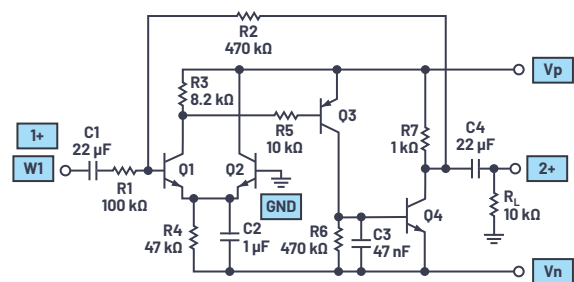

Figure 1. A high gain amplifier.
On your solderless breadboard, construct the amplifier circuit shown in Figure 1.
Connect your circuit to the ADALM2000 I/O connector as indicated by the blue boxes in Figure 1. It is best to ground the unused negative scope inputs when not being used. The SSM2212 NPN matched pair should be used for Q1 and Q2 transistors.
- For the circuit in Figure 1, what is the gain from the input source, W1, to the output seen at  $R_L$ ? Which components set this gain?